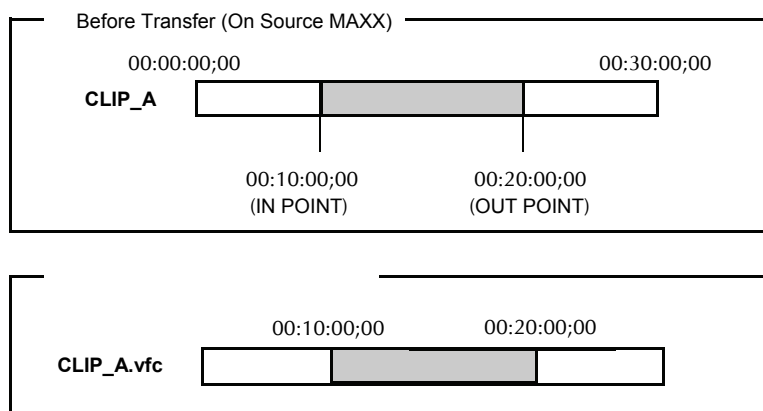

Figure 29 – Result of a VFC file transfer
- To maintain the identity of the transferred clip, the time code references for its Mark-In/Out points are maintained, as shown in **Figure 29**.